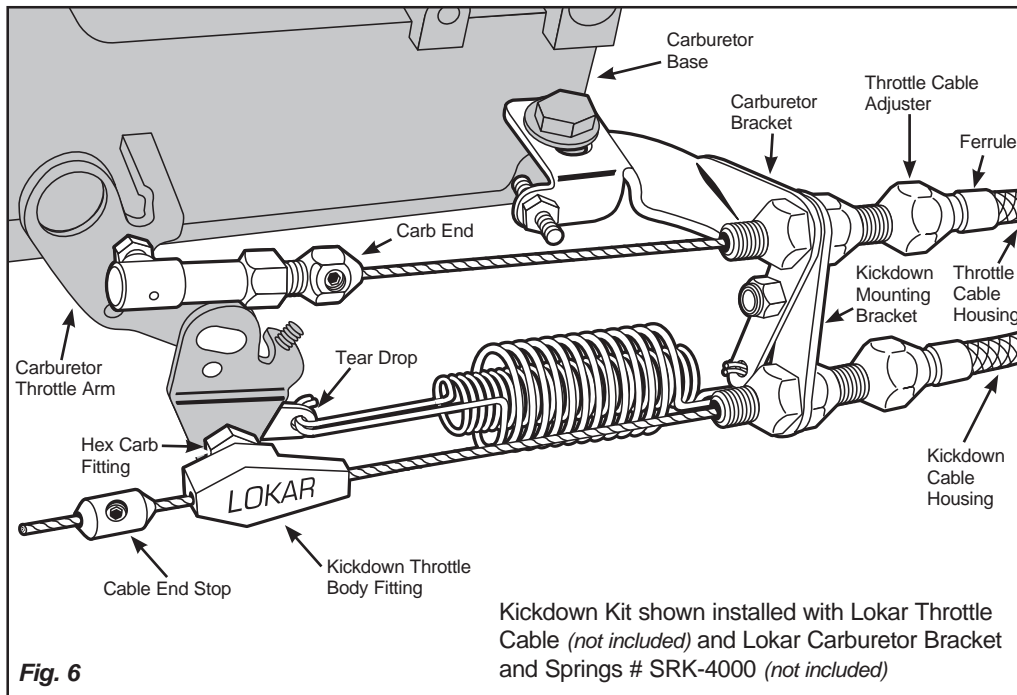
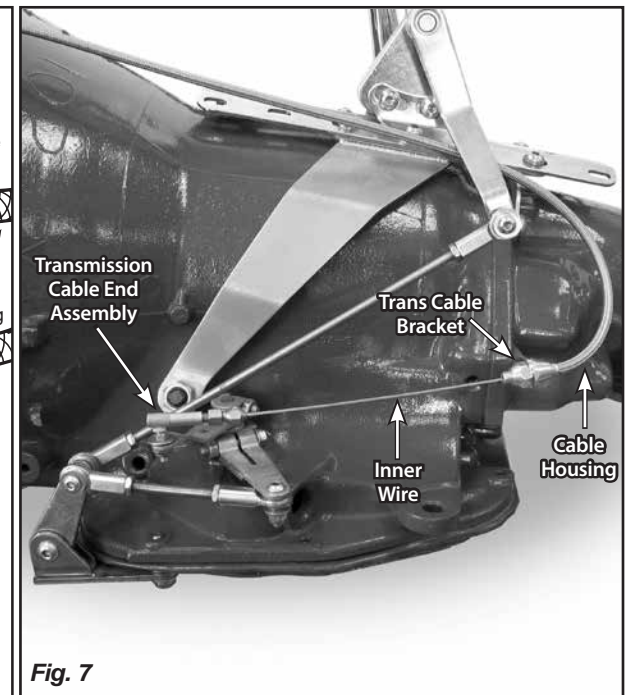

Fig. 6
Fig. 7
Step 7: The tear drop (not included, part of SRK-4000 Carburetor Bracket and Springs) will be attached to the carburetor throttle arm by the hex carb fitting. Separate the hex carb fitting from the kickdown throttle body fitting. Install the hex carb fitting and the tear drop onto the carburetor throttle arm as shown in Fig. 6. Hook the springs to the tear drop and tighten the nylock nut on the hex carb fitting. Then, back the nylock nut off just enough that the tear drop can pivot freely.
Final installation should look like **Fig. 6** and **Fig. 7**.